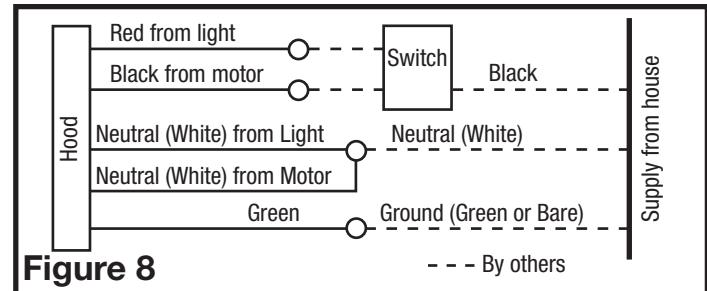

Figure 8
- Connect the 2 loose White wires from the range hood to the White wire from the supply. Connect the Black wire from the range hood to the black wire from the switch. This controls the motor. Connect the red wire from the range hood to the red wire from the switch. This controls the light function. Connect the ground wire (green or bare) from the supply to the green ground screw of the hood. Use approved methods for all connections (Figure 8).